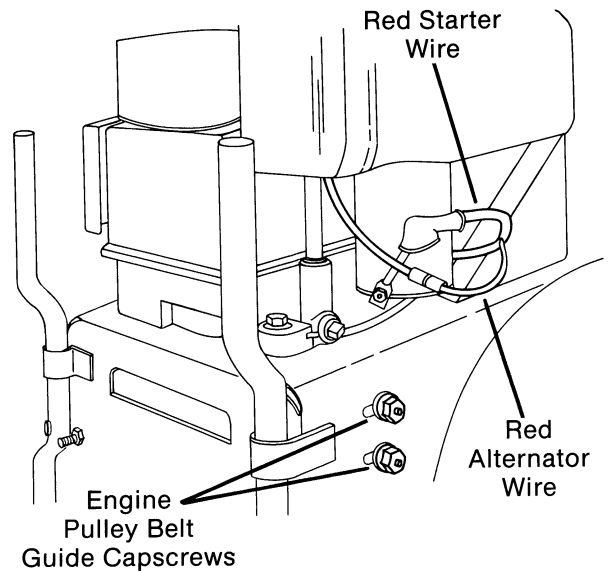

FIG. 5
- F. (Electric start only) Disconnect red starter wire and red alternator wire at connector at right rear corner of engine. (Fig. 5)
- H. Remove carriage bolts, washers and locknuts securing engine pulley belt guide and remove belt guide. (Fig. 5)
- F. Loosen, but do not remove, two locknuts securing engine pulley belt guide to main frame. (Fig. 5)